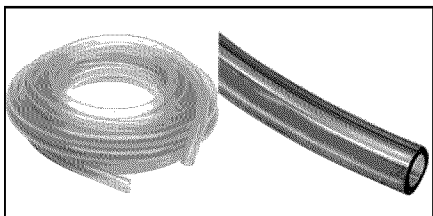

Figure 4 - Condensate overflow flexible tubing.
- 1/2" Flexible tubing for Condensate Overflow (Figure 4 on page 8)